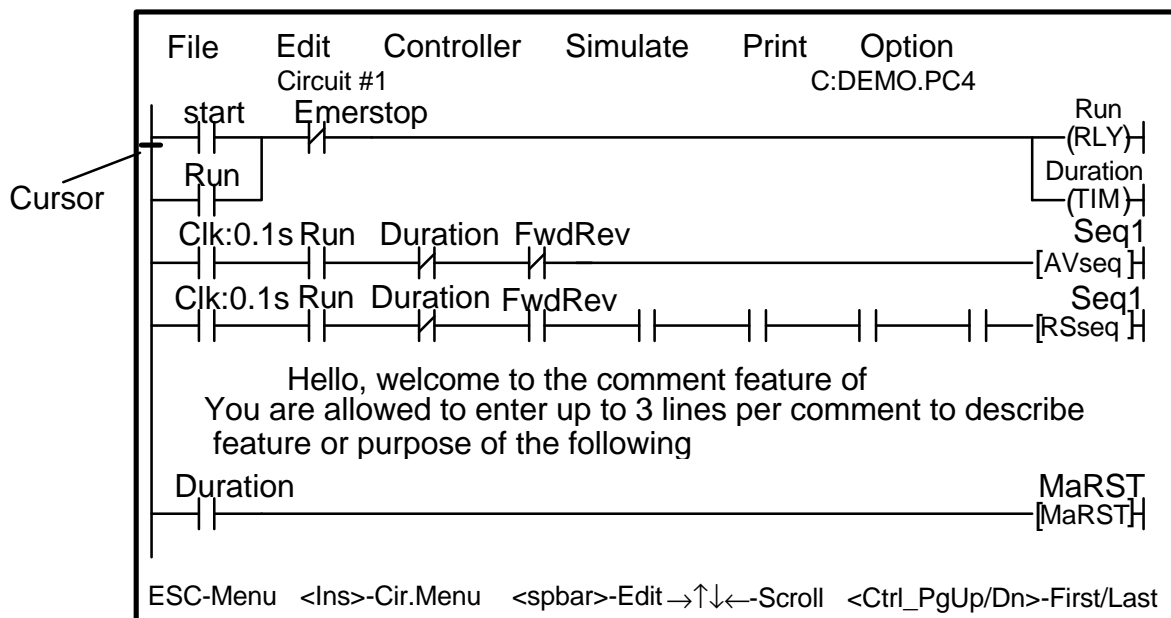

Figure 2.2
6. When file "DEMO.PC4" is loaded, the pull-down "File" menu will be closed. You are immediately conveyed into the "Browse Mode" of the ladder logic editor which allows you to quickly browse at each circuit in your program. The cursor is the familiar blinking underscore DOS cursor and is located at the leftmost end of the first circuit. See Figure 2.2